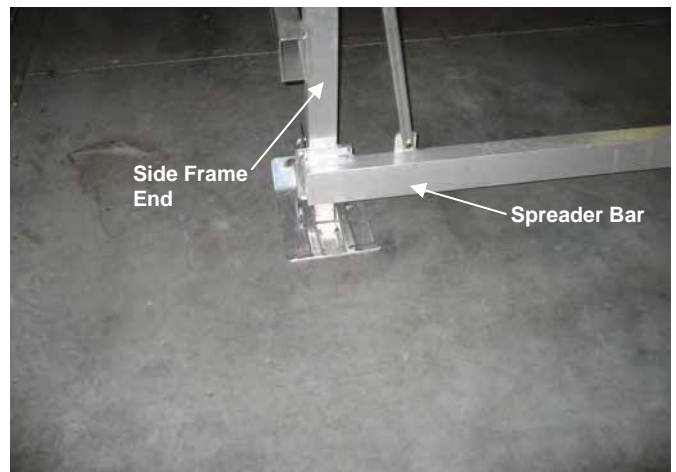

FIG. 6
2. Attach to the ends of the side frames as shown. See FIG. 6 & 7. Use 4 ea 3/8" x 1" bolts and nuts provided on each corner. Do not tighten at this time. See FIG. 6 & 7.